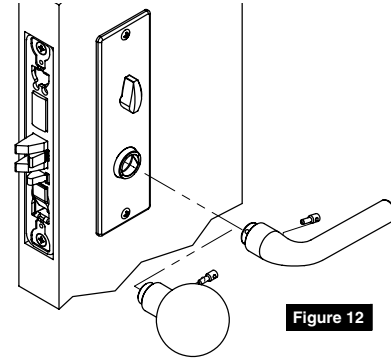

Figure 12
6. Install inside lever or knob by inserting dowel screw. (Figure 12)